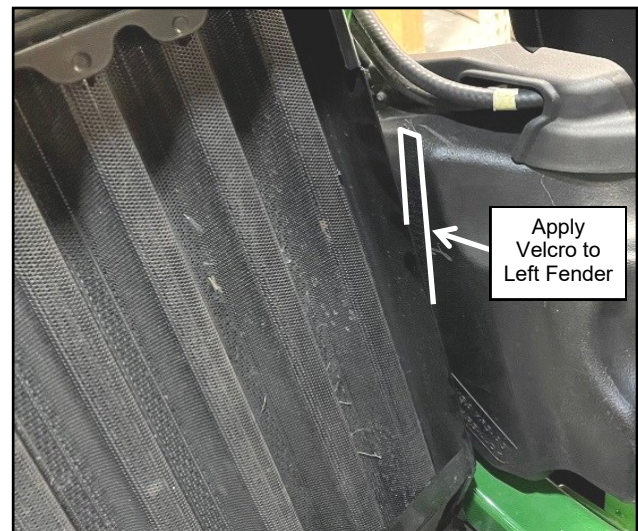

Fig. 2.23 (Install Velcro, Left Fender)
2.23 At the bottom of the left side rear panel assembly, there is a small piece of Velcro. Place a piece of P.S.A. Velcro onto the rear fender as shown in Figure 2.23. Attach lower corner of rear panel vinyl onto installed Velcro.